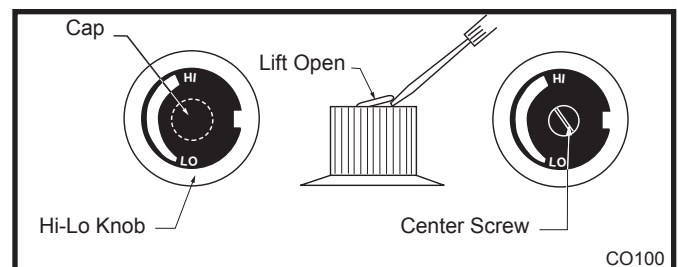

Fig. 40 Remove center screw from HI/LO knob.
1. Remove cap from Hi-Lo knob. This can be accomplished by lifting the plastic cap off the screw. (Fig. 40)
2. Remove the screw from center of Hi-Lo knob with small screwdriver turning counterclockwise. (Fig. 40)